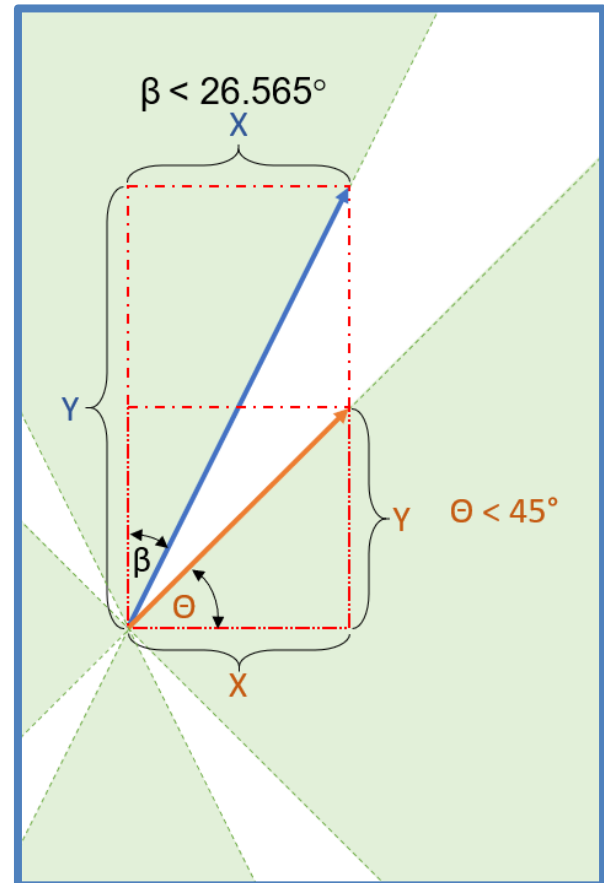

Figure 2.1 Swipe Gesture Requirements
2. The distance in (1) is covered within the time specified in the Swipe Timer Limit register (0x8C, byte 0).
3. The angle of the swipe gesture as determined by its starting coordinate and the coordinate at which the touch is released, does not exceed the thresholds as shown in Figure 2.1.